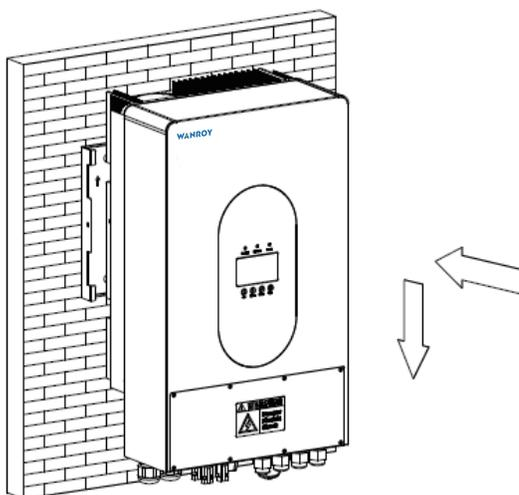

Figure 10
- Lift the inverter a little higher than the stand while taking its weight into account to ensure that it remains balanced. Then, hang the inverter on the bracket using the hook provided on the bracket, as shown in Figure 10.